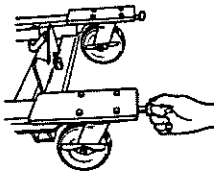

Figure 1
- Be sure to lock swivel casters on tilt-back frame (AWP-30 & 36, figure 1).